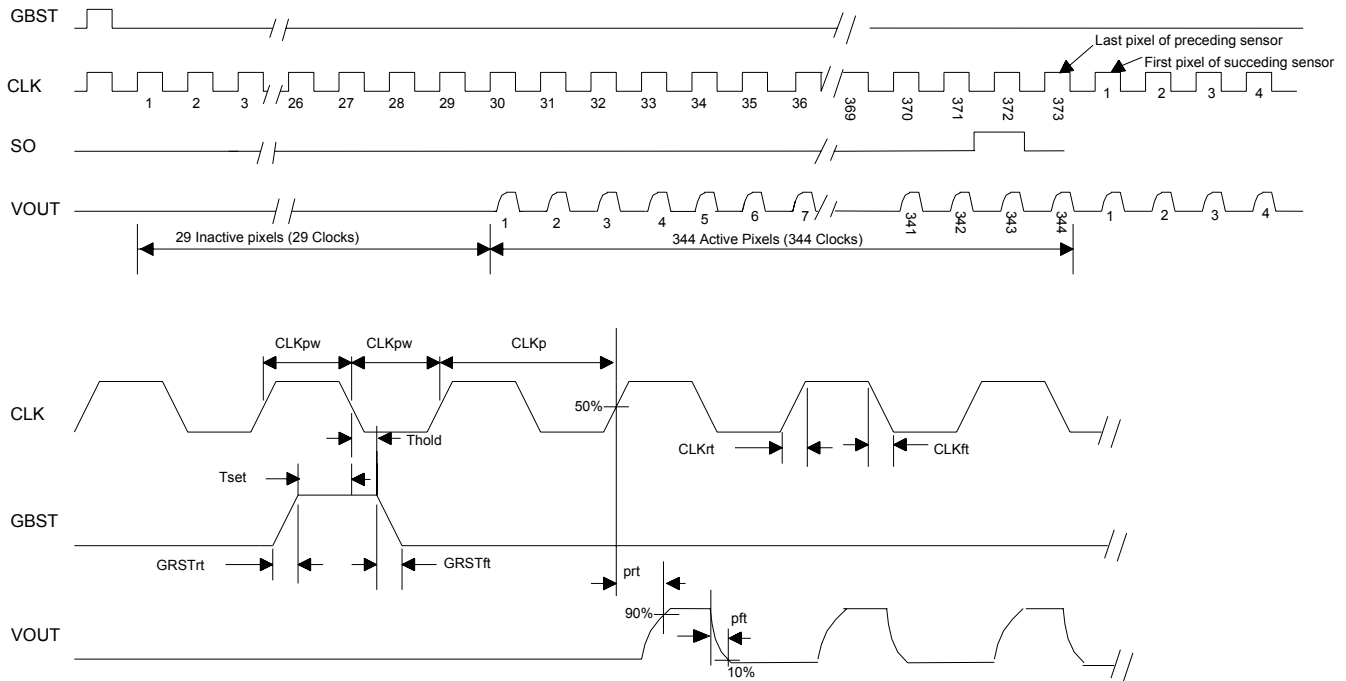
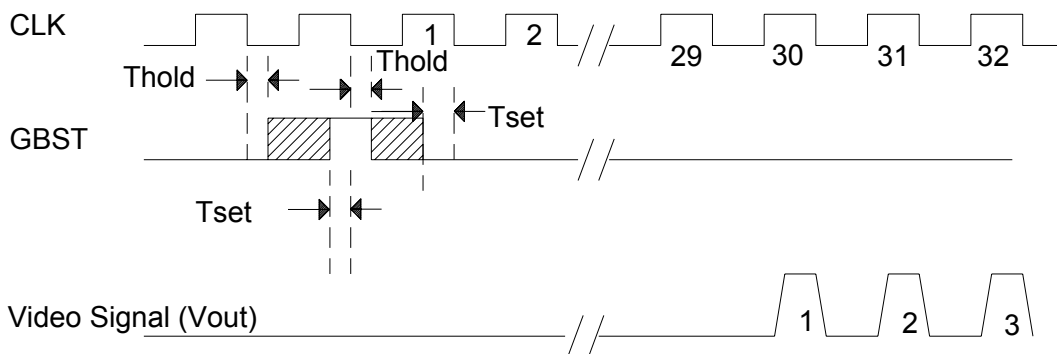

Figure 4: Overall Timing Diagram
Figure 5: Timing of GBST-to-first Pixel of the First Sensor
The timing requirements and their symbols are listed in Table 5 and its accompanying timing diagrams are shown in Figure 4 and Figure 5.
4. The transition between pixels does not always reach the dark offset level as shown in Figure 4 (Vout). Figure 4 shows the transition doing so for illustration purposes; however a stable pixel sampling point does exist for every pixel.
Figure 4 shows the initialization of the first sensor in relation to its subsequent cascaded sensors. The SIC selects the first sensor to operate with 29 clock cycles of delay by connecting it to V_{dd} on the first sensor and to ground for all subsequent sensors. Hence the first sensor will operate with 29 inactive pixels being clocked out before its first active pixel is clocked out. The rise and fall times are listed in Table 5. The SO comes out in line with the second last active pixel, and the last active pixel of each sensor is the 344th pixel which coincides with the 344th clock cycle.